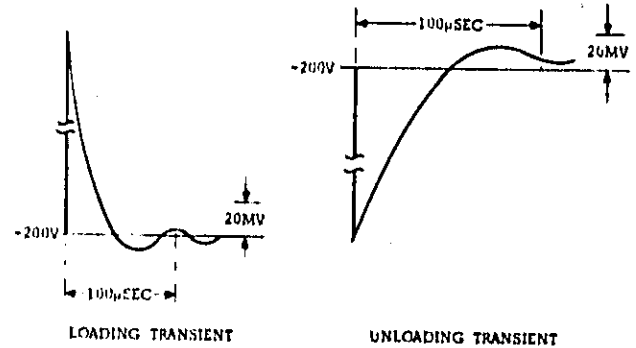

Figure 5-4. Transient Recovery Time, Waveforms
d. Adjust 25K potentiometer until a stable display is obtained on oscilloscope. Waveform should be within the tolerances shown in Figure 5-4 (output should return to within 20 mV of 200 V_{dc} in less than 100 µsec).